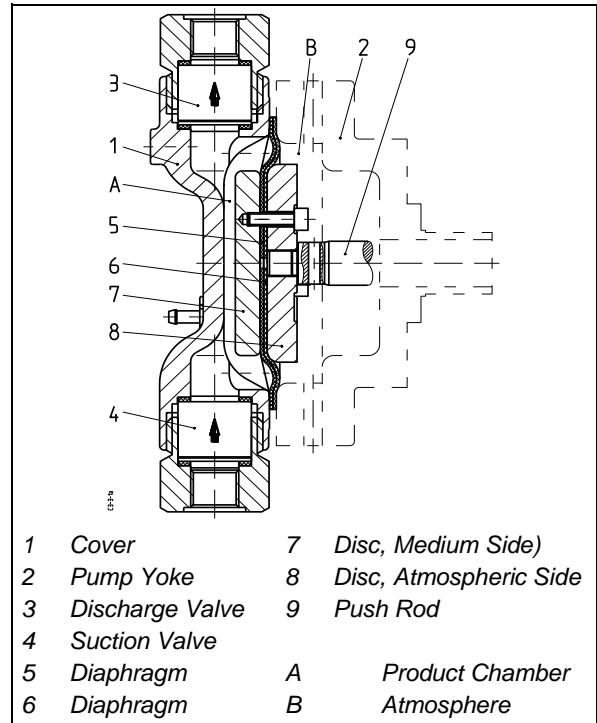

Fig. 3.1: Diaphragm at Front Dead Center
- **Suction stroke:** Movement from front (Fig. 3.1) to rear dead center (Fig. 3.2).
- **Discharge stroke:** Movement from rear (Fig. 3.2) to front dead center (Fig. 3.1).